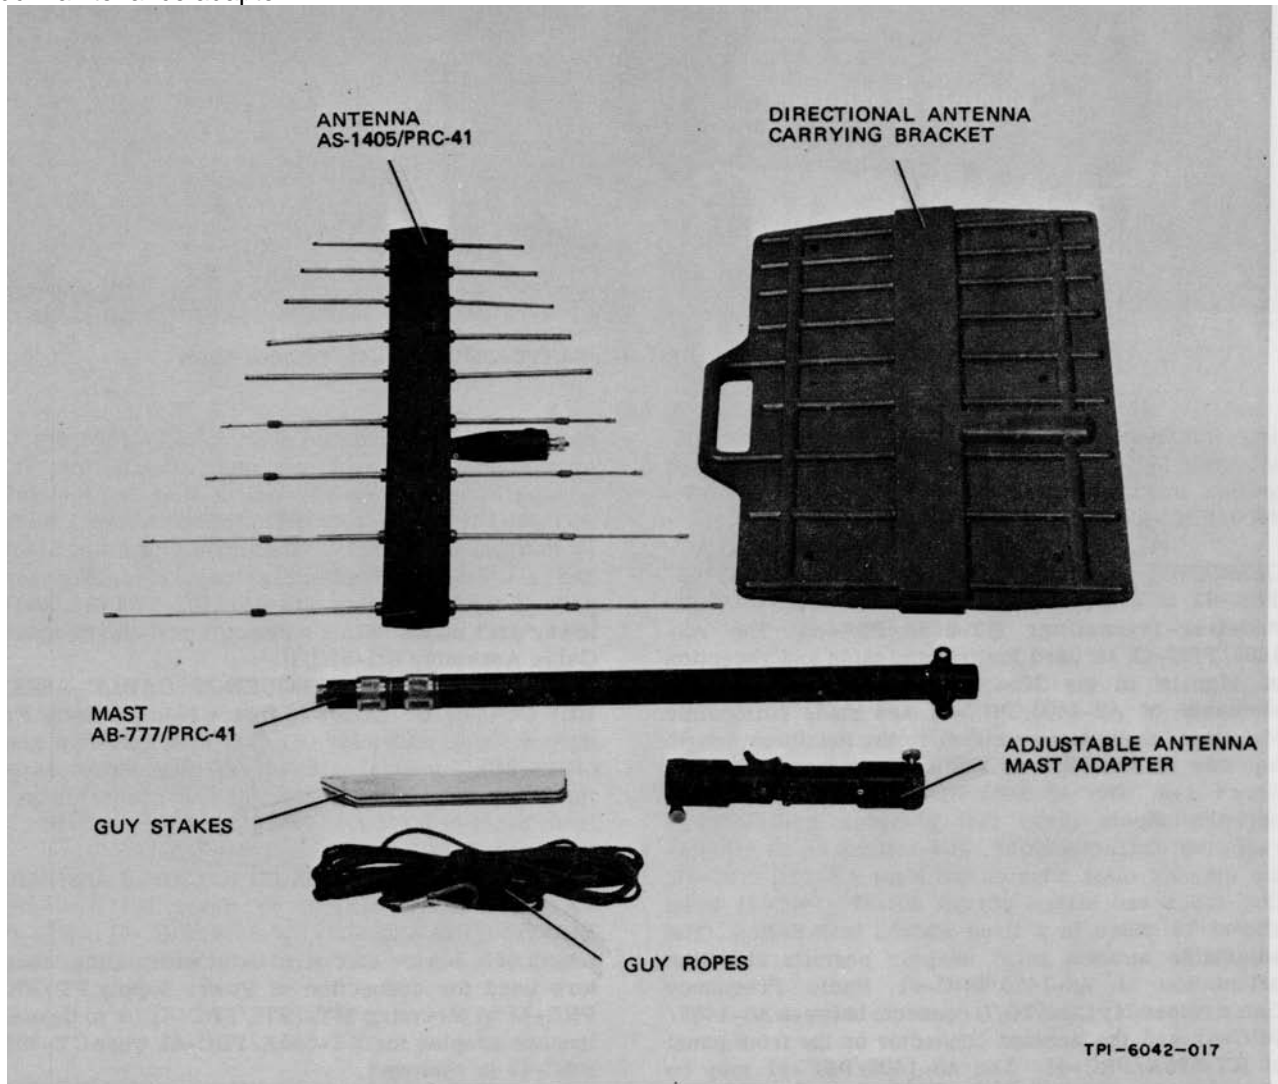

Figure 1-9. Antenna AS-1405/PRC-41, Mast AB-777/PRC-41 and Accessories
(4) ANTENNA AS-1405/PRC-41 AND ACCESSORIES. (Refer to figure 1-9.) -Antenna AS-1405/PRC-41 is a directional antenna for use with Radio Receiver-Transmitter RT-695A/PRC-41. The AS-1405/PRC-41 is used for transmission and reception of signals in the 225- to 399.9-MHz range. The elements of AS-1405/PRC-41 are made collapsible for storage but are extended to the maximum length for use in the 225- to 399.9-MHz range. Refer to figure 1-9. The AS-1405/PRC-41 is a planar log periodic dipole array that provides unidirectional radiation characteristics, and mounts on an adjustable antenna mast adapter and Mast AB-777/PRC-41. Guy ropes and stakes permit AB-777/PRC-41 to be staked in place in a fixed station installation. The adjustable antenna mast adapter permits elevation orientation of AS-1405/PRC-41. Radio Frequency Cable Assembly CG-55G/U connects between AS-1405/PRC-41 and the antenna connector on the front panel of RT-695A/PRC-41. The AS-1405/PRC-41 may be stored in the directional antenna carrying bracket by collapsing the adjustable elements.